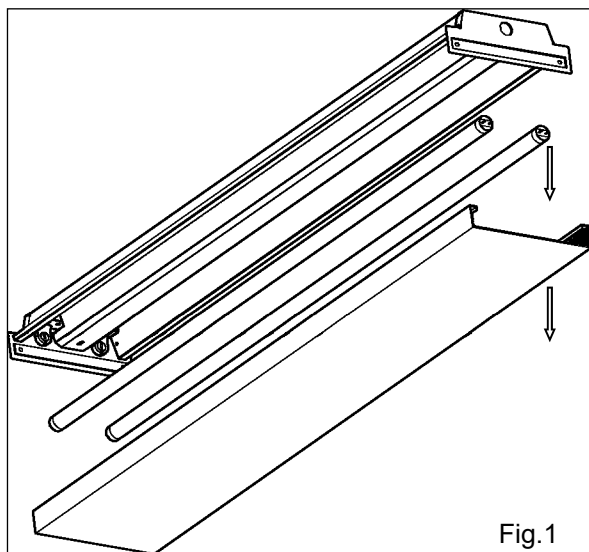

Fig. 1
3. Remove lens and lamps from luminaire (Fig. 1).